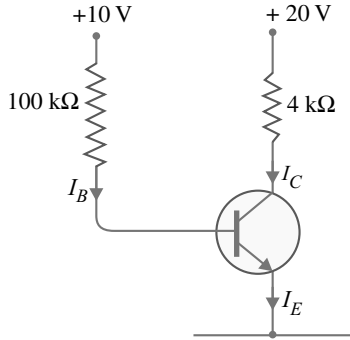

Fig. 7.58
2. Fig. 7.58 shows biasing with base resistor method. Determine the operating point. Assume the transistor to be of silicon and take  $\beta = 100$ .  $[I_C = 0.93 \text{ mA}, V_{CE} = 17.3 \text{ V}]$